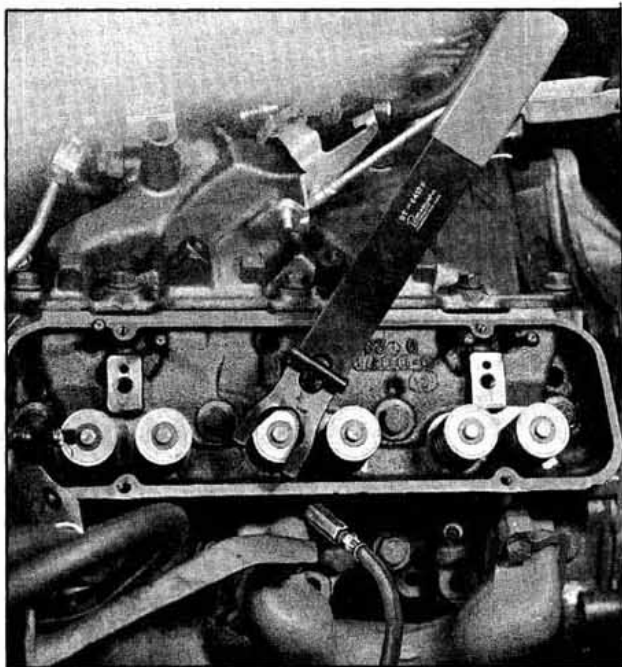

Fig. 3-12 Valve Spring Removal
3. Using Tool BT-6413 compress valve spring as shown in Fig. 3-12 and remove valve cap retainers, valve cap and valve spring.